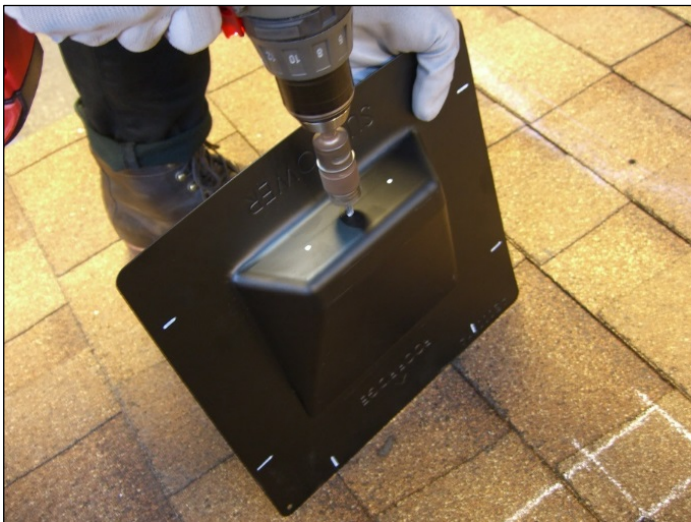

Fig. B6
9. The flashing comes with three hole locations each marked with a white dot. Allowing for the size of your chosen gland, drill the flashing with a step drill tip (or knockout tool) centered on one of the dots (Fig. B6).